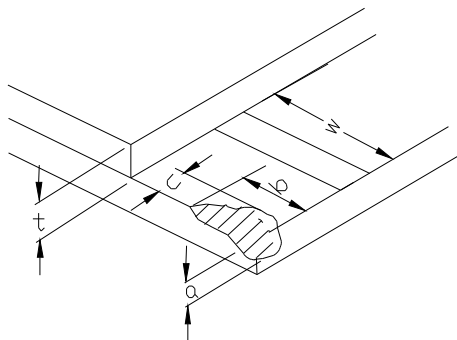

图5
3.8.2.4 Defects at the corner (figure5) unit: mm